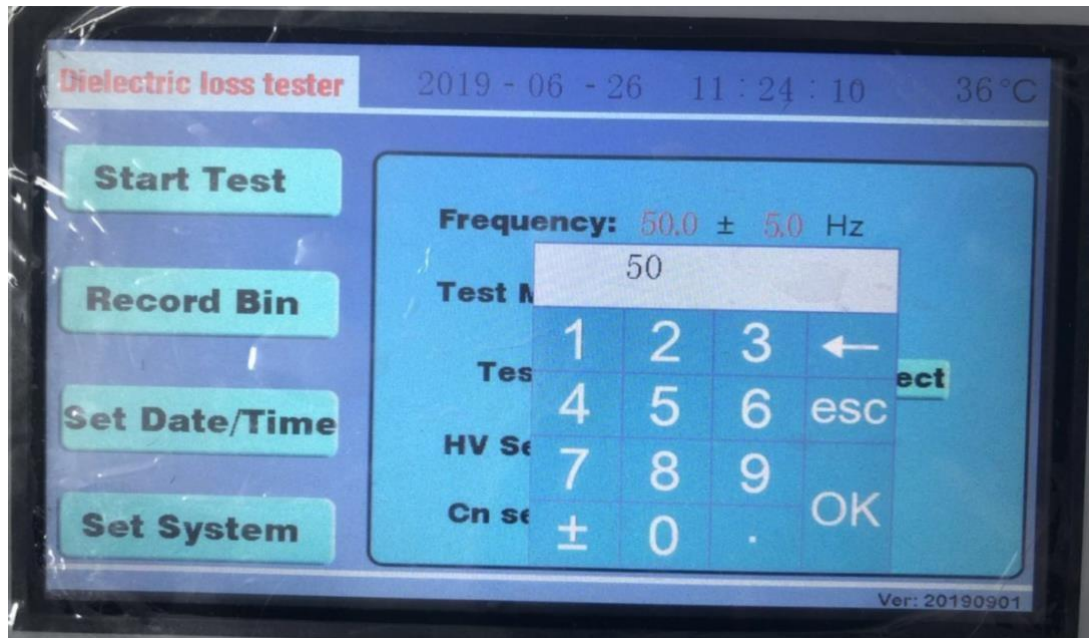

Figure 11 Frequency modification diagram
- 1) To test the modification of the frequency, click the "45.0±0.0Hz" scarlet letter with the stylus or finger. Display Figure 11